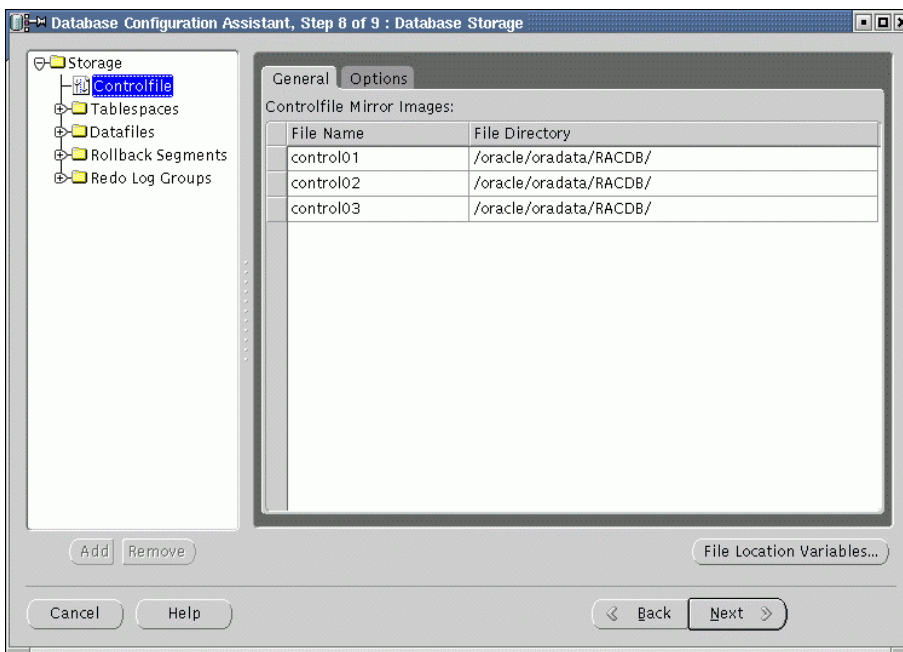

Figure 85. dbca database storage – control files
- DBCA now shows the Database Storage Window (Figure 85). The tablespaces and datafiles should be as specified in the mapping file, `dbca_mapping.cfg`. Select from the left hand panel and review the information shown on the right hand panel. When finished, click **Next** to continue.